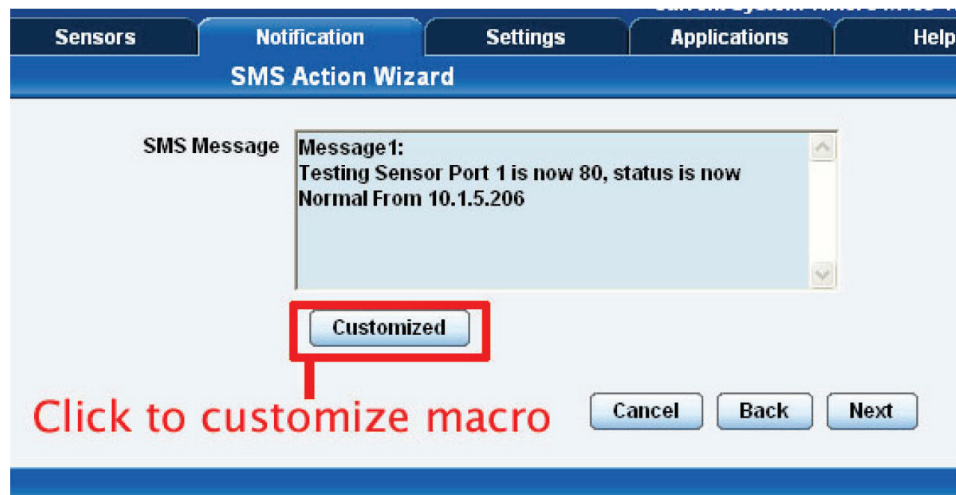

Figure 4-24. Customize macro screen.
3. Now we will set up the message that will be sent to the phone. You will see the screen shown in Figure 4-24.